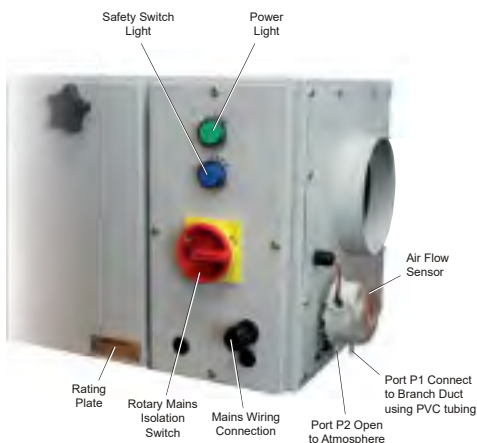

Figure 33 - UV-O 1000 Control Panel
- The mains cable should be run through the cable gland located in the bottom right hand corner of the front of the Unit (See Figure 33 - UV-O 1000 Control Panel on page 30)
2. Turn on the Rotary Mains Isolation Switch (On/Off) to the 'On' position. **Note:** The green Power Light (See Figure 33 - UV-O 1000 Control Panel on page 30) will illuminate, indicating that power is being supplied to the Unit. The blue Safety Switch Light will illuminate (See Figure 33 - UV-O 1000 Control Panel on page 30), indicating that the various safety switches are engaged and that sufficient airflow is passing through the Unit.